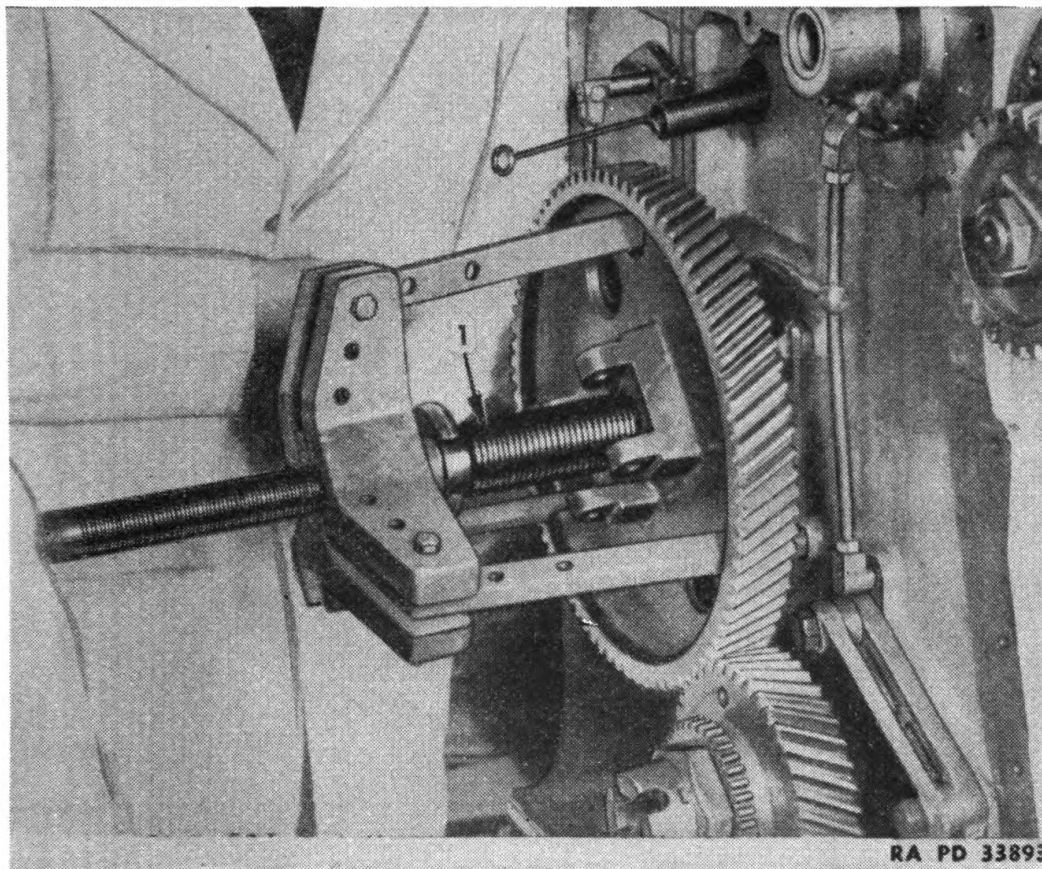

FIGURE 42.—Camshaft gear puller tools.
38. Camshaft gear.—The camshaft gear can be removed from the camshaft without removing the camshaft from the engine. The puller tools required for replacing the gear are illustrated in figure 42.
a. Remove camshaft gear retaining nut and screw the puller stud (1) on the threads. The puller stud is used to protect the end of the camshaft on which the governor sleeve moves.